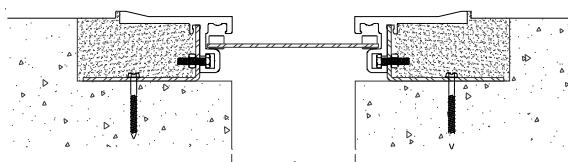

Figure 6
**STEP 10.** Select the centering bars for the section of the joint cover system. Select one of the centering bars, and insert one of its pins into the track of one of the base member assemblies. Insert the other pin into the track of the opposite base member assembly (see Figure 6). Repeat the procedure for each of the centering bars in the section of the joint cover system being installed.